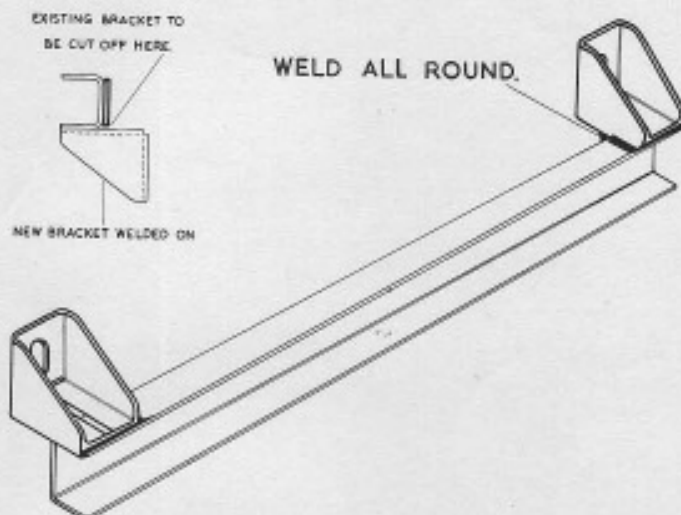

FIG. 2.
- (c) Position on channel and weld all round as shown in Fig.2.